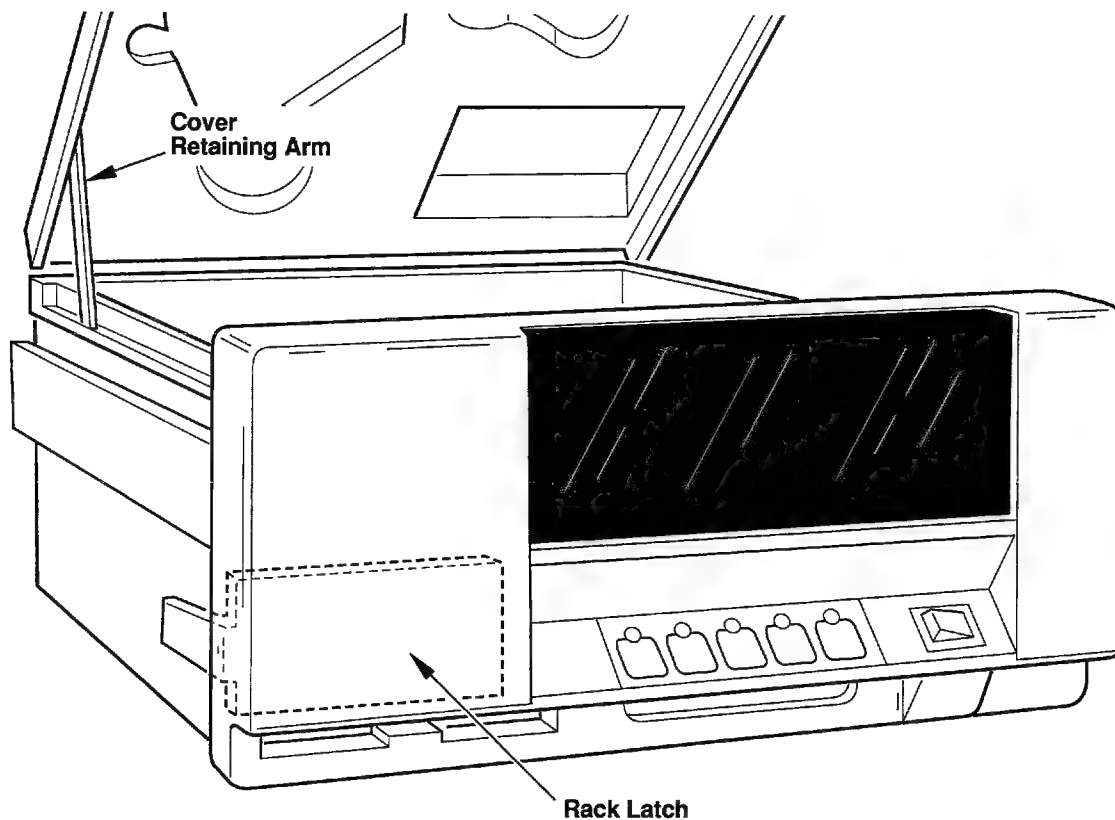

Figure 1-2. Location of Rack Latch and Cover Retainer Arm
1. Release the rack latch located under the left side of the front panel. See Figure 1-2.
3. Raise the top cover and place the cover retainer arm (Figure 1-2) in the slot next to the tape path.
2. Raise the top cover and place the cover retainer arm (Figure 1-2) in the slot next to the tape path.
1. Release the rack latch located under the left side of the front panel (Figure 1-2).